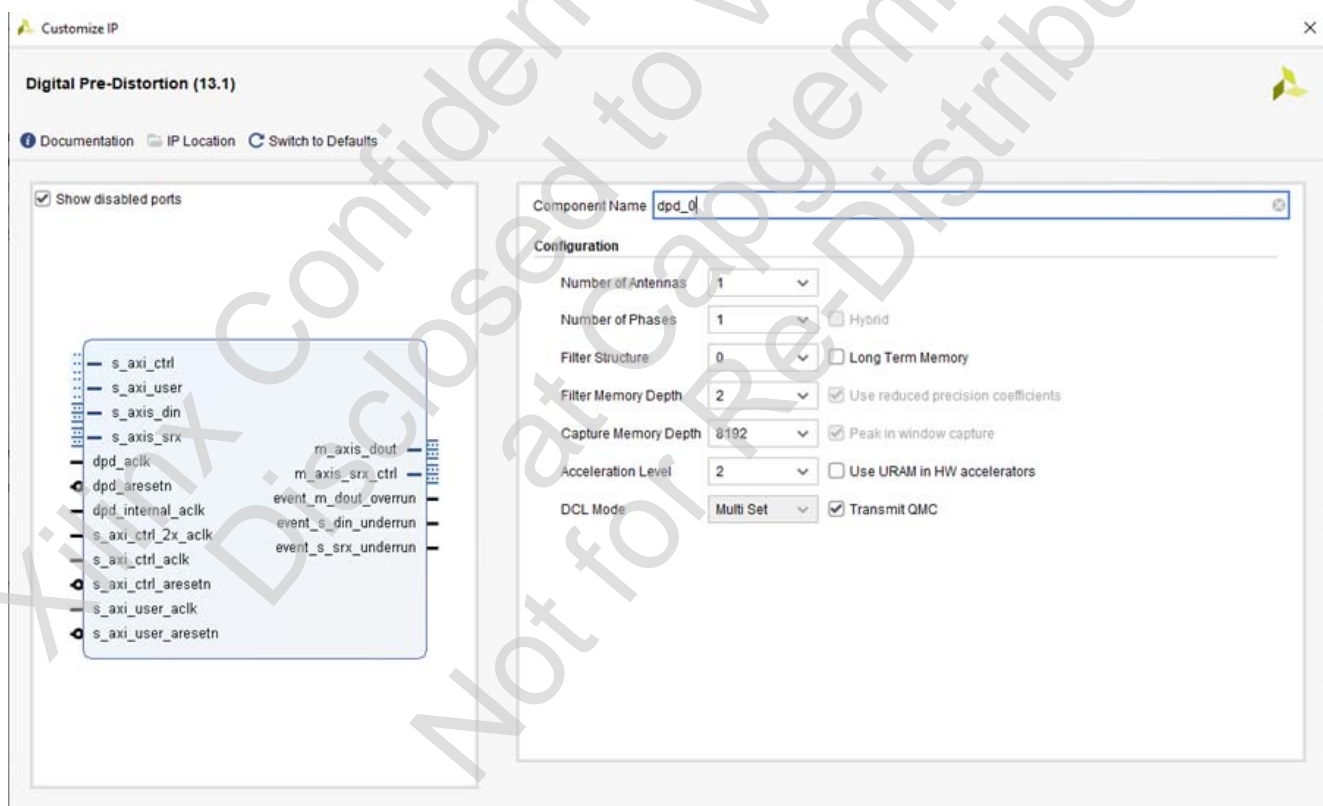

Figure 4-1: Customize IP (When Targeting MPSoC/RFSoc Gen 1/2/3)
6. A new window, **Customize IP**, shows various customizable parameters of the IP for DPD v13.1. These parameters are explained in the following sections. See Figure 4-1. A similar customization window is displayed, if the IP Core is created in an RTL design.